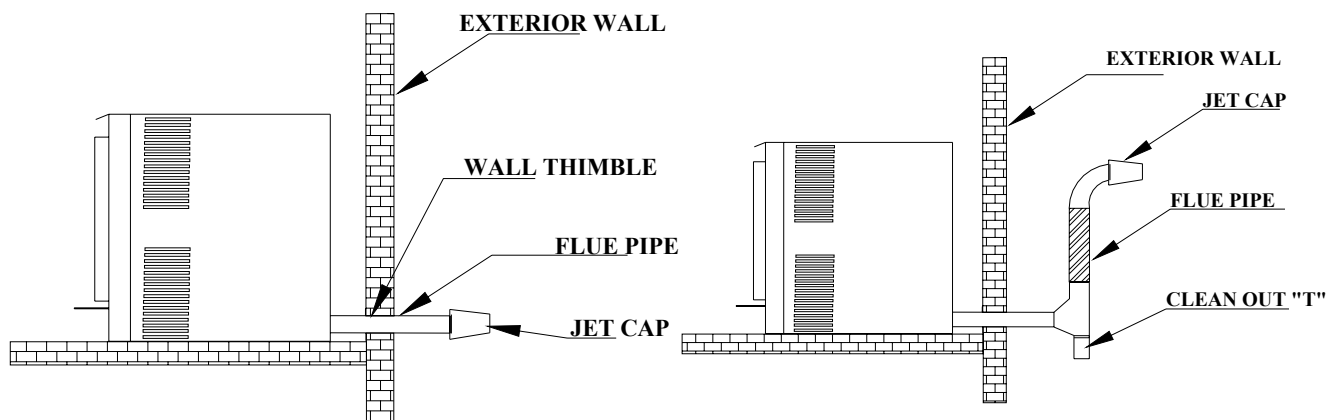

FIGURE 1: HORIZONTAL VENT PIPE (2 options)
6. The LR-01 is designed to accept installations using a horizontal vent through an exterior wall. A horizontal flue pipe installation should be a minimum of 24" from pellet stove vent pipe to flue cap connection. FIGURE 1 shows a through the wall exterior vent installation.